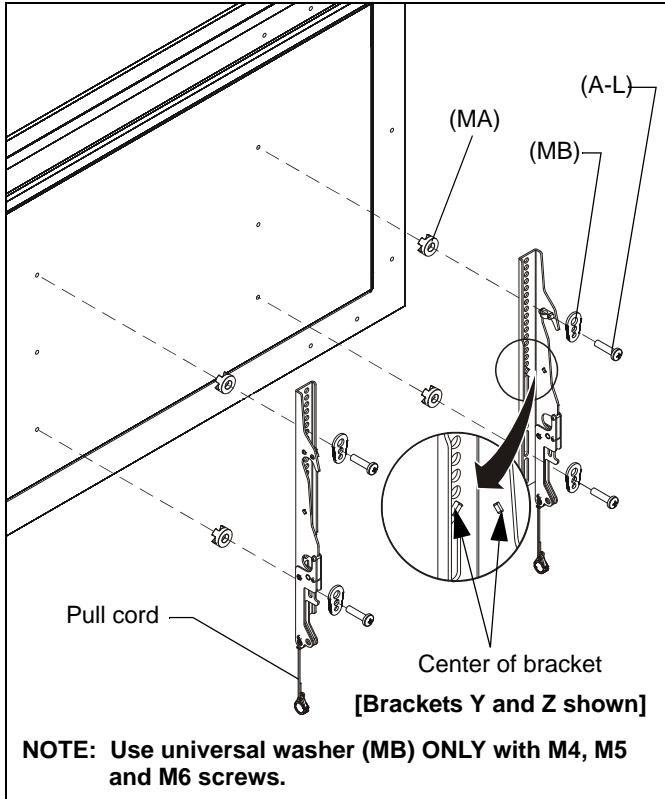
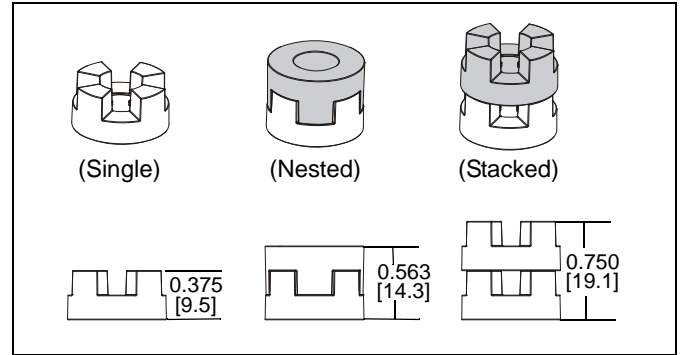

Figure 5
Figure 6
1. Align the center of the bracket (Y and Z or AA and BB) with center of screen. (See Figure 5)
2. Select correct screws, nesting spacers (if necessary) and universal washers (if required) from the hardware bag (A-M) and attach brackets to back of screen. (See Figure 5)
**IMPORTANT ! :** The M8 screws do **NOT** require a washer. Use the universal washer (MB) only with M4, M5 and M6 screws.
**NOTE:** The nesting spacers (MA) may be used separately, or put two together in different configurations to create different size spacers. (See Figure 6)